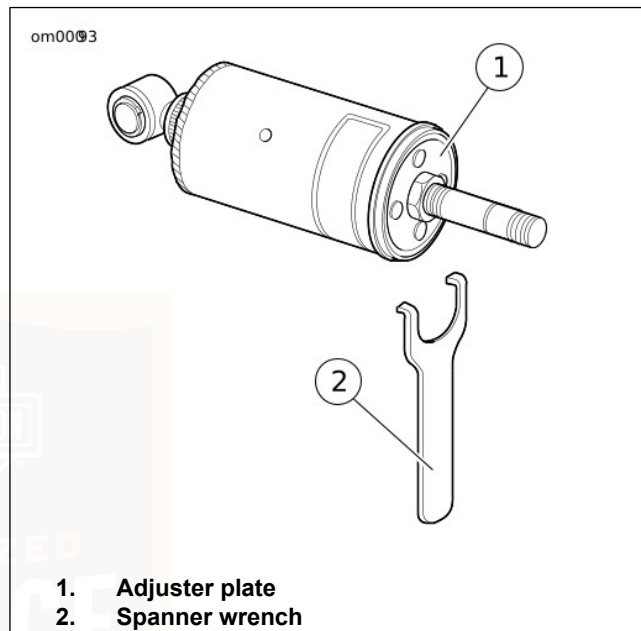

Figure 32. Rear Shock Absorber Adjustment: Softail Models
2. See Figure 32. Use a spanner wrench to turn the spring adjuster plate to the desired position.